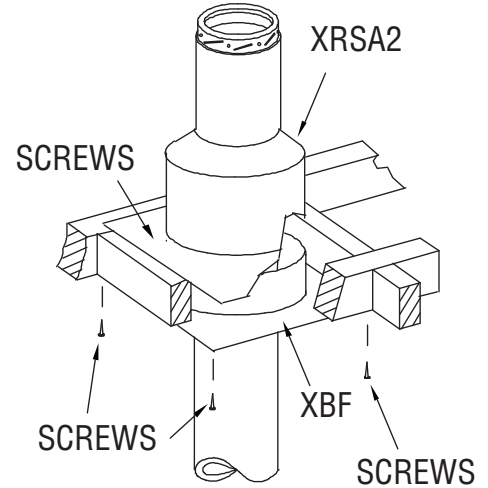

Figure 8
Step 7. At the attic level, install a Firestop Plate (XBF), from below and an Attic Radiation Shield (XRSA2) and Storm Collar from above (see Figure 8).